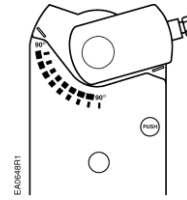

Figure 13.
- a. Insert the shaft adapter to the right as close as possible to the raised stop. Figure 13.